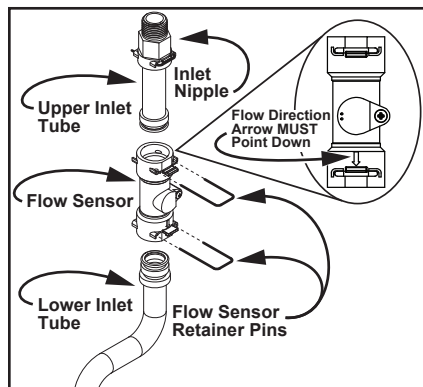

Figure 33 - Disassembling the inlet components and removing the flow sensor.
**9** Using a flat head screwdriver and/or needle nose pliers, locate and remove the retainer pins securing the flow sensor to the upper and lower inlet tubes. See Figure 33.
**2** Install the flow sensor onto the lower inlet tube and secure it in place with one of the new flow sensor retainer pins, previously removed. See Figure 33.
**3** Install the upper inlet tube into the flow sensor and secure the upper inlet tube to the flow sensor with second flow sensor retainer pin. Insure the retainer pins are fully seated against the body of the flow sensor. See Figure 33.